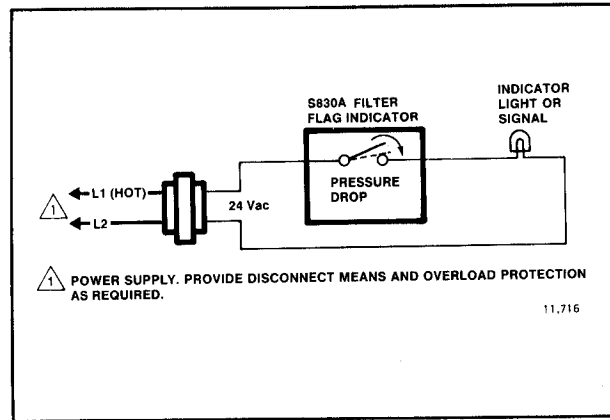

FIG. 4—TYPICAL HOOKUP FOR S830A. CIRCUIT IS ACTIVATED WHEN S830A FLAG DROPS.
2. If the electrical switch is to be used, connect wires to the terminals on the back of the case (Fig. 4).
4. Run the wires through the drilled hole from outside blower chamber, pull through opening for mounting, and connect them to the S830 (Fig. 4).
flag shows in the clear plastic window on the front of the case. The S830A may be wired to a remote filter light on a thermostat subbase (Fig. 4). The contacts make to actuate the light when the air filter needs cleaning or changing. See wiring instructions furnished with subbase.